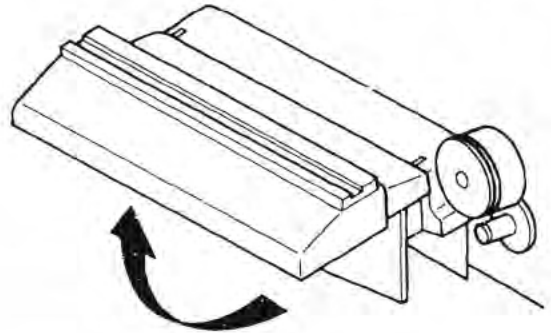
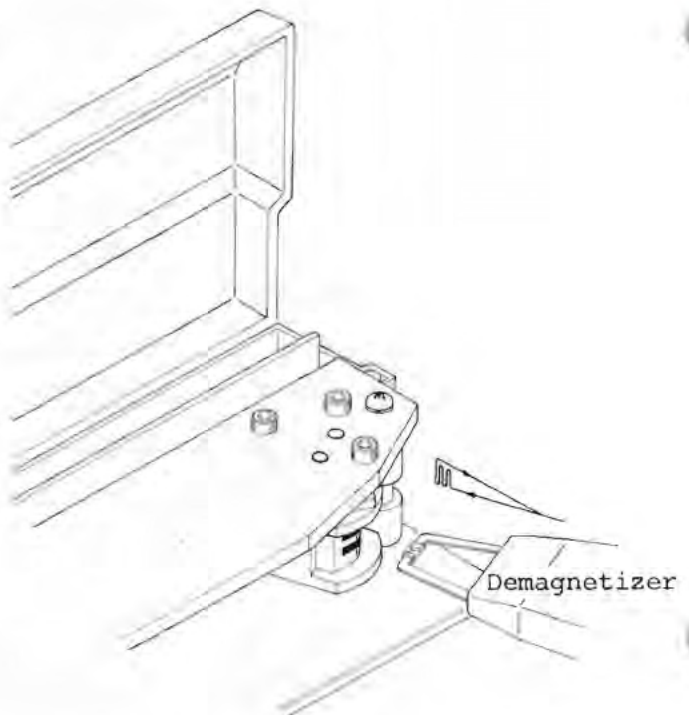

Fig. 4-1 Lifting the Head Cover
Fig. 4-2 Demagnetizing
- (1) Lift the head cover as illustrated in Fig. 4-1.
- (2) Clean each head stack thoroughly with a cottontipped applicator dampened with head cleaner.
- (1) Turn the unit's power off and remove any recorded tape near the transport. The tape could be partially erased by the demagnetizer.
- (2) Lift the head cover as illustrated in Fig. 4-1.
- (3) Cover the demagnetizer tips with adhesive tape to prevent scratching the head stacks.
- (4) With the demagnetizer held away from the transport, connect the demagnetizer to a power source.
- (5) Move the demagnetizer tips slowly close to the head, lightly touch the face of one head stack and slowly move the tips up and down the stack several times. Then slowly withdraw the demagnetizer as shown in Fig. 4-2.